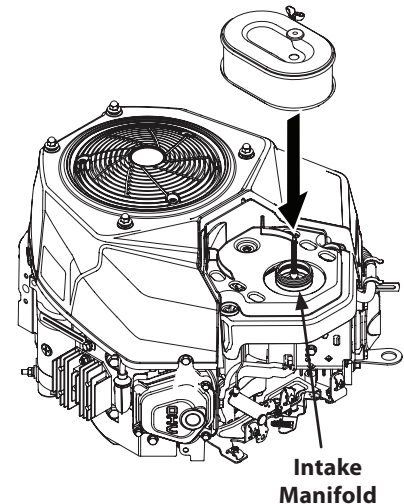

Figure 6-7
7. Attach the new air filter with foam element, aligning the hole in the air filter with the intake manifold. See Figure 6-7.